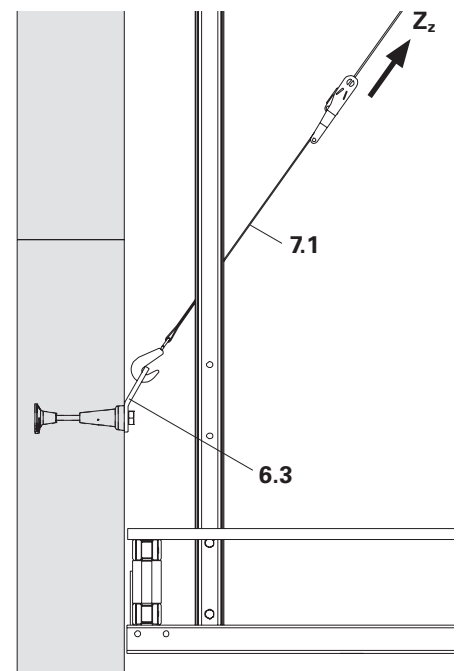

Fig. B1.33a
- If lateral stabilisation of the finishing platform is not required, then the Belt Connector Wall (6.3) can also be used instead of the bracing shoe. (Fig. B1.33a)